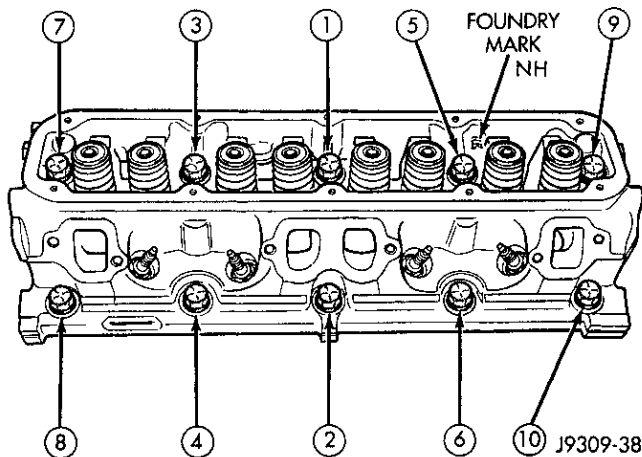

Fig. 15 Cylinder Head Bolt Tightening Sequence
(2) Position the new cylinder head gaskets onto the cylinder block.
(3) Position the cylinder heads onto head gaskets and cylinder block.
(4) Starting at top center, tighten all cylinder head bolts, in sequence, to 68 N•m (50 ft. lbs.) torque (Fig. 15). Repeat procedure, tighten all cylinder head bolts to 143 N•m (105 ft. lbs.) torque. Repeat procedure to confirm that all bolts are at 143 N•m (105 ft. lbs.) torque.